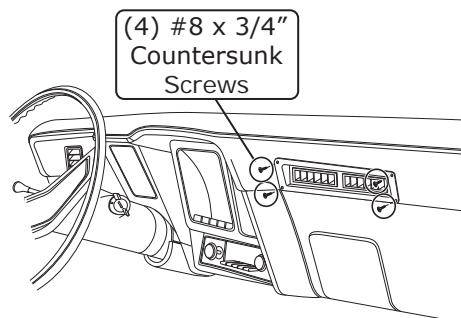
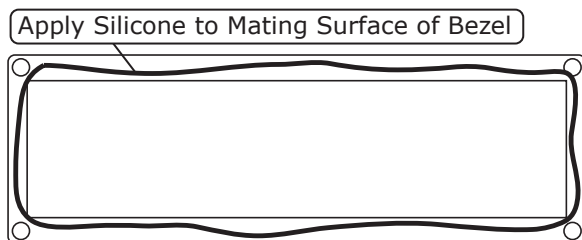

Figure 3
Figure 4
3. Using (4) #8 x 3/4" countersunk screws, secure the center louver assembly to the dash as shown in Figure 3 and Photo 1, below. **NOTE: Vintage Air recommends using a bead of silicone around the mating surface of the center louver bezel before installing it into the dash (See Figure 4, below).**